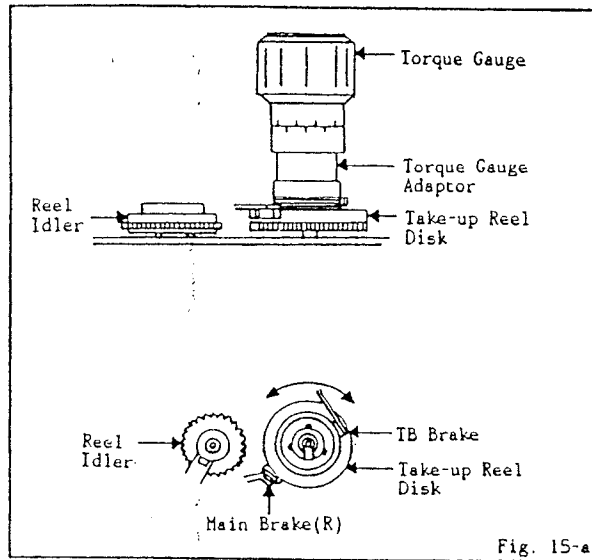

Fig. 15-a
3. Confirm that it is more than 200g/cm at that time. Refer to Fig. 15-a.